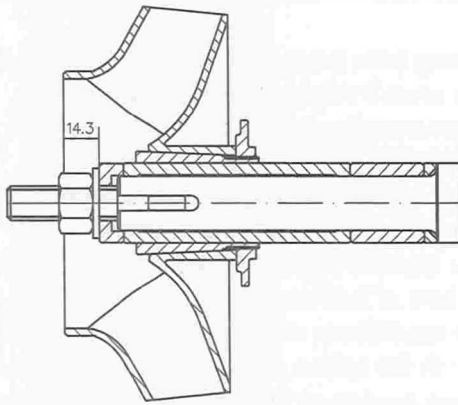

Figure 4
- Fit impeller shaft sleeve(PN16), impeller, fasten impeller nut((PN15), ensure the size is 14.3 as figure 4 shows.